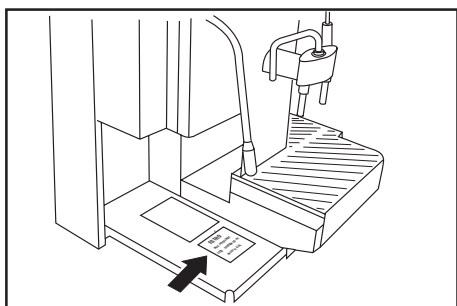
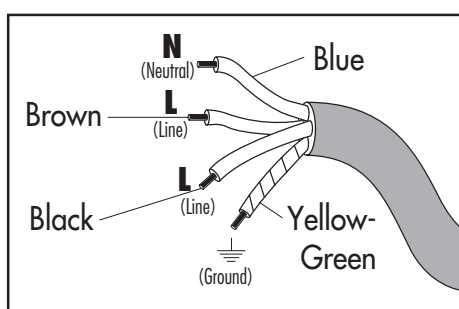

Fig. 1
Fig. 2
- The machine is only to be connected to an adequate power supply. For correct information consult the data plate under the coffee dreg drawer (fig.1) following the reported instructions (fig. 2):